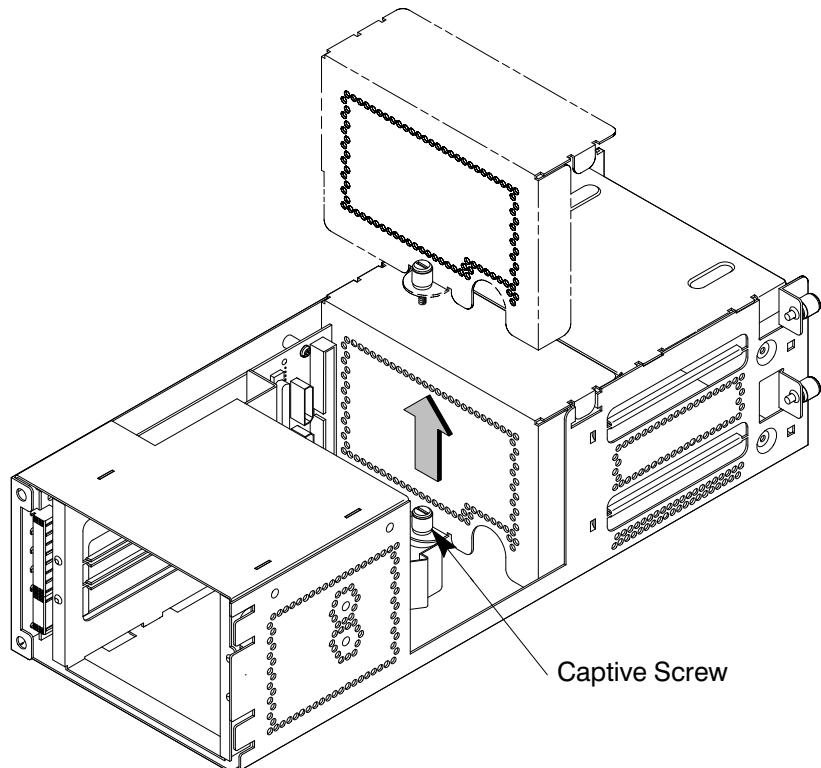

Figure A-4. Removing EMI Plate
- 6.** Unscrew the captive screw holding the EMI plate at the back of the removable drives and lift the plate up and out of the drawer, as shown in Figure A-4.